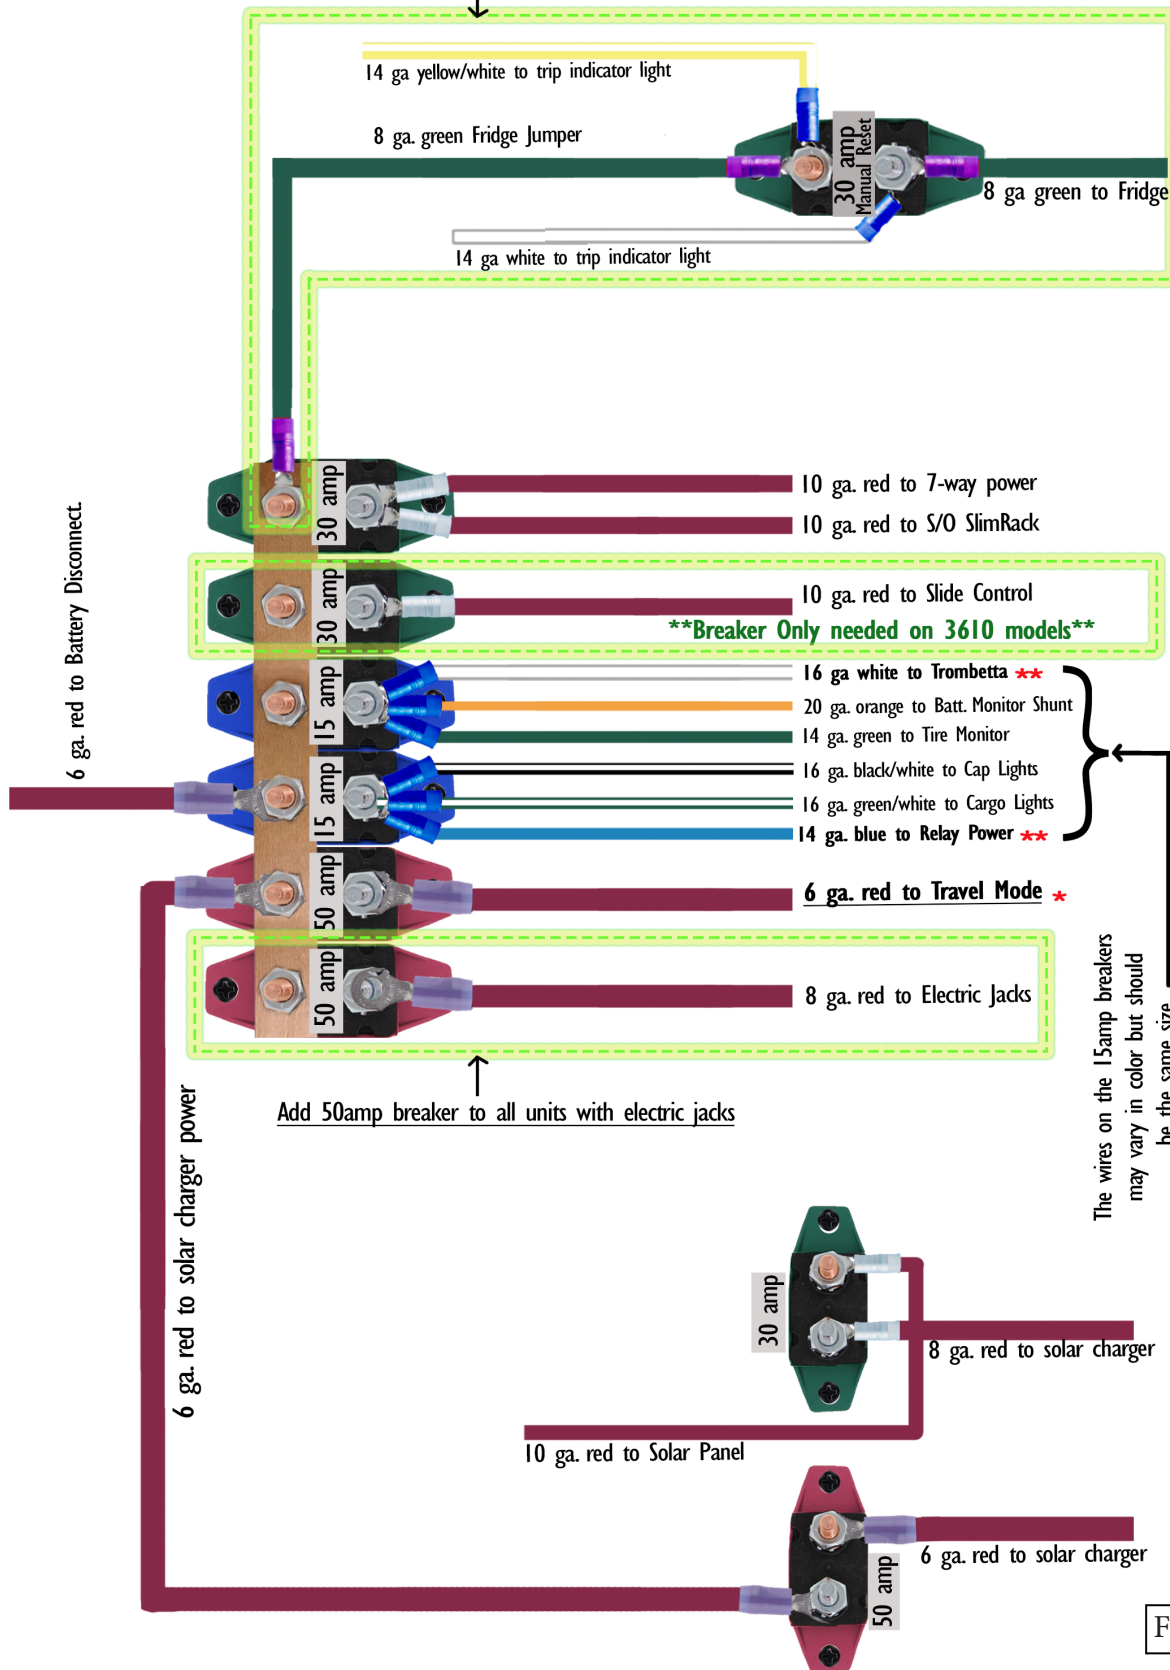

Figure 34
47. Repair complete (reference Figure 34 - final diagram on the final page).